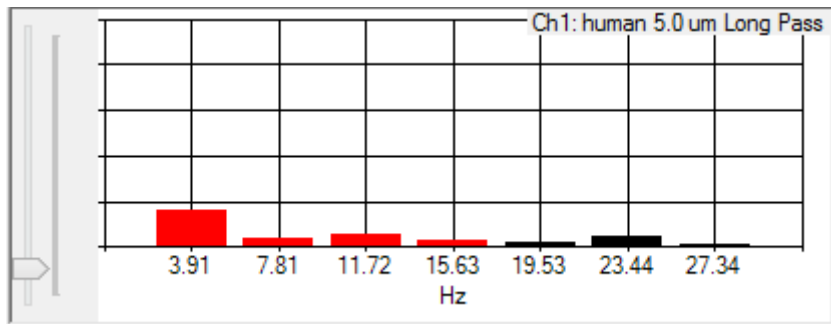

Figure 12: Fourier Transform Bar Plot
- **Freq sum** – This is the value acquired by summing the frequency bins set by the user, shown with red columns in Figure 12. These are the values produced prior to the signal multipliers in Section 7.5.4 so the effect of the signal multipliers will not appear on this view.